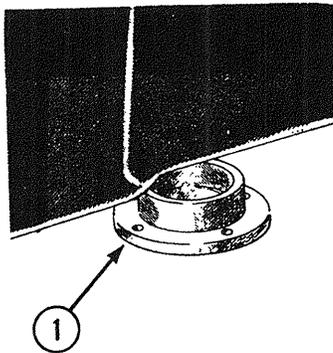

Fig. 3-26
- G. Model D-300D mixers have aluminum transmission cases. These have steel liners for the lower center shaft bearing cavity. Do not remove the liner but see that the holding screws are tight and that the bearing seat is clean (1, Fig. 3-26).